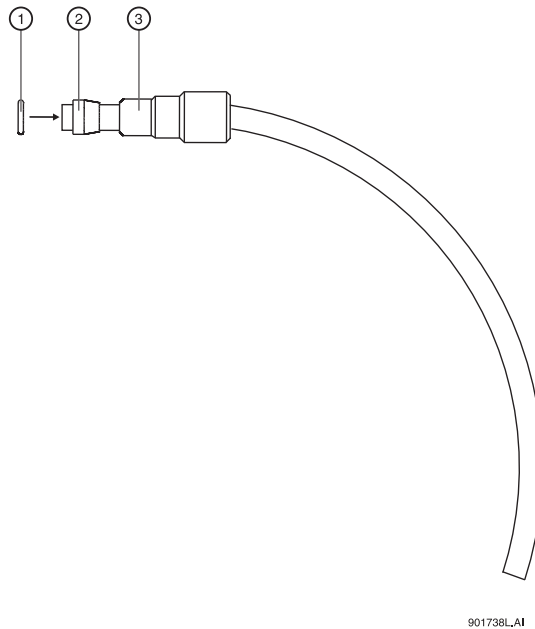

Figure 4.7 Sliding Nut, Ferrule and O-Ring Over End of Coolant Tubing
- Slide one tubing nut, ferrule (tapered edge first) and O-Ring over each end of the new coolant tubing as shown as shown in Figure 4.7. If a ferrule has been removed from the tubing, re-using the same ferrule may cause a leak. Always use a new ferrule.